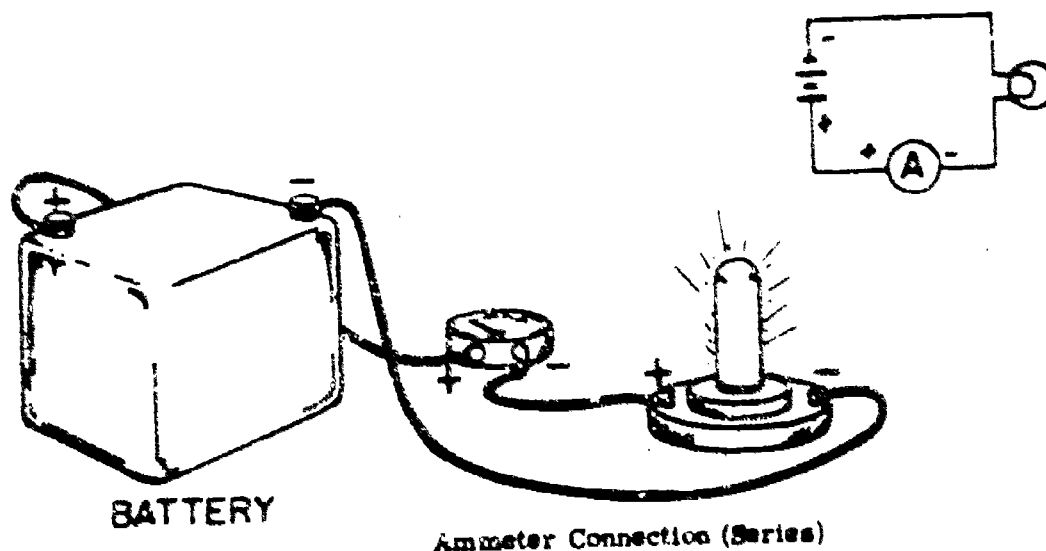

Figure 8.
5. Current is measured with an AMMETER. Figure 8 illustrates the proper way of connecting the ammeter. The instrument is put in **SERIES** with the load (resistance) so that the total current flows through it. Notice that the positive terminal of the ammeter is connected to the positive terminal of the battery. If the connections were reversed, the meter would deflect in the wrong direction and the impact of the needle against the stop marker might bend it considerably.